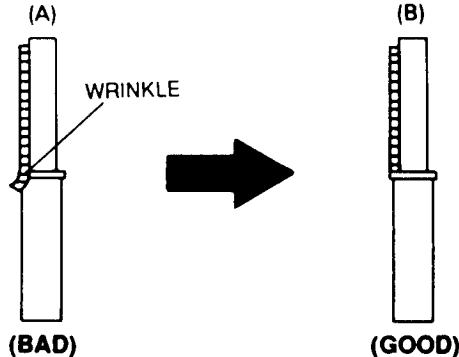

Fig. 6 Tape Guide Check
2. Confirm that there is no curl or wrinkle at the lower flange of the tape guide, as shown in Fig. 6 (B).
3. If a curl or wrinkle of the tape has occurred, slightly turn the screw (C) tilt adjust on the A/C head ass'y clockwise until it disappears, as shown in Fig. 6 (B).